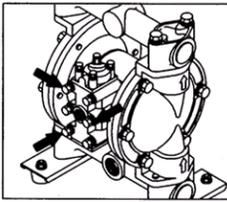

Fig. 7.1A
- Aluminum motor: remove the 6 retainer bolts from the valve body, and remove the valve body including gasket. [Fig. 7.1A]